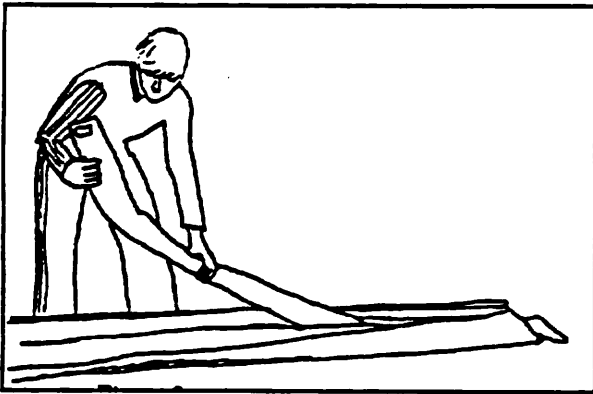

Figure 4
2) Undo the zipper, remove the battens and the control bar cover bag. (Figure 4 & 5)